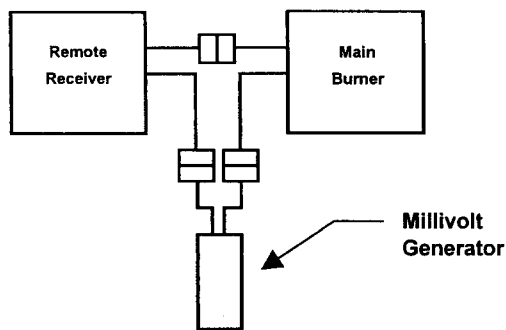
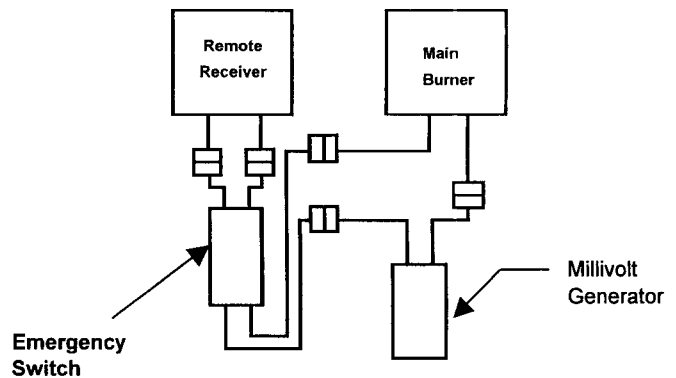

Figure 1
Figure 2
3. Connect the wires labeled " Main Valve" to the Millivolt generator and Millivolt valve (see Fig.1) or the Emergency Switch (Fig.2). Switch the Emergency Switch to OFF position if it is installed. Use the Emergency Switch only during a power failure.